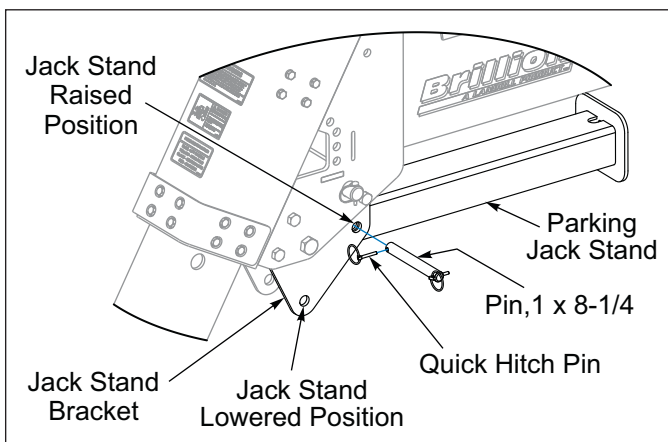

Figure 3-4: Parking Jack Stand Storage
9. Rotate the Parking Jack Stand into storage position and pin in place. **See Figure 3-4.**
5. Rotate the Parking Jack Stand into storage position and pin in place. **See Figure 3-4.**